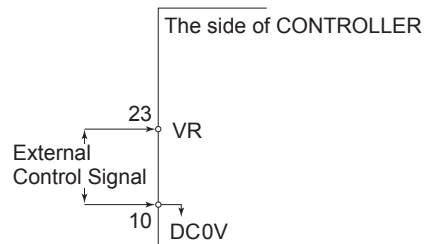

Fig. 30
**When applying the VR, never input more than DC+10V (Fig. 30). This will cause serious damage to the I / O Board in the CONTROLLER.**